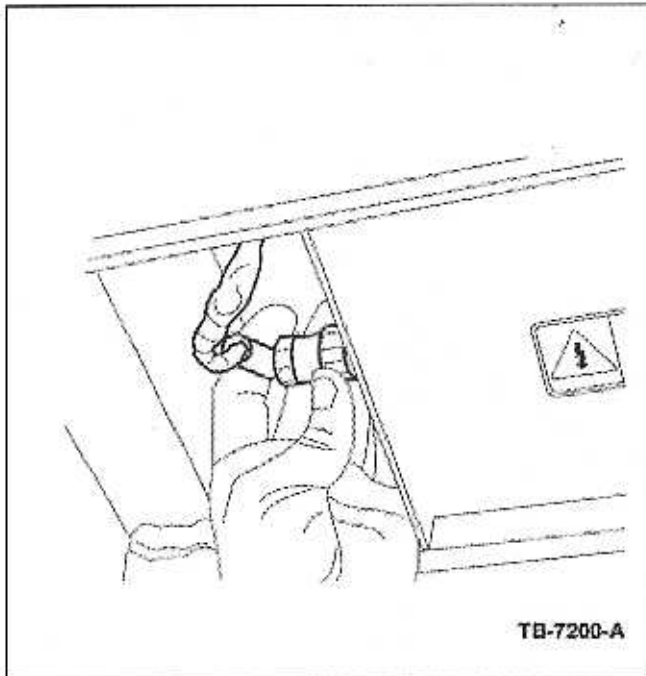

Figure 1 - Article 03-12-1
1. Remove the DC connection from the onboard charger as seen in Figure 1.